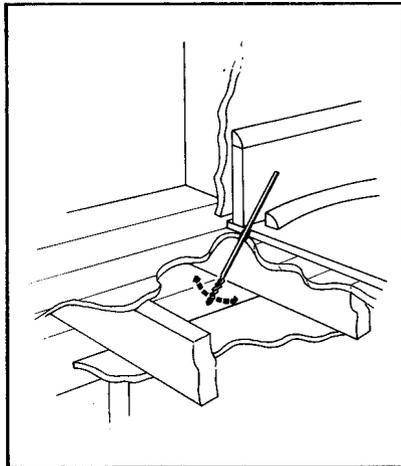

FIGURE 4. Locating Plates
(1) When drilling plates, locate them by feeling with the bit to determine proper position for drilling as shown in Figure 4.